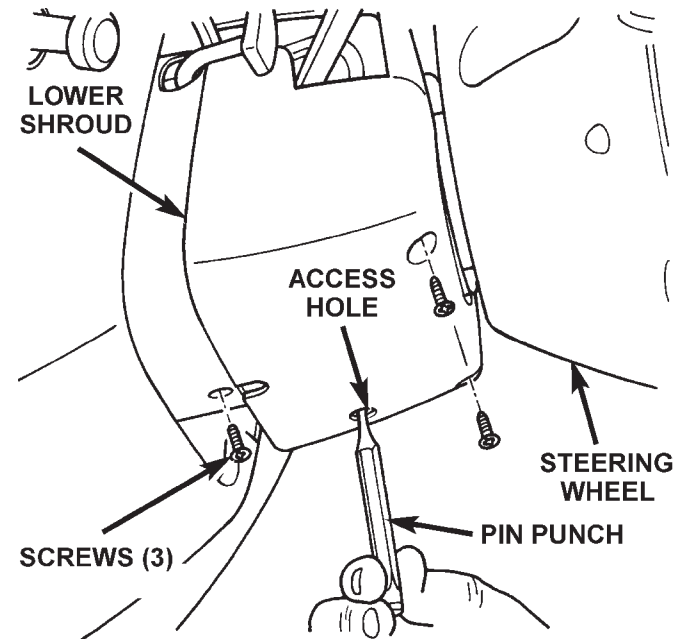

Fig. 5 Steering Column Shrouds Remove/Install
(1) Disconnect and isolate the battery negative cable.
(2) Remove the knee blocker from the instrument panel. See Knee Blocker in Group 8E - Instrument Panel Systems for the procedures.
(3) If the vehicle is so equipped, move the tilt steering column to the fully raised position.
(4) Insert the key in the ignition lock cylinder and turn the ignition switch to the On position.
(5) Insert a small screwdriver or pin punch through the access hole in the lower steering column shroud and depress the ignition lock cylinder retaining tumbler (Fig. 5).